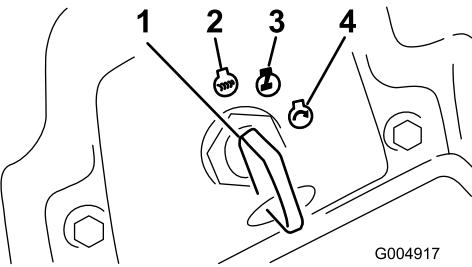

Figure 19
6. Turn the ignition key clockwise to the Run position (Figure 19).
- Turn the ignition key to the Off position (Figure 19). Wait for all moving parts to stop before leaving the operating position.